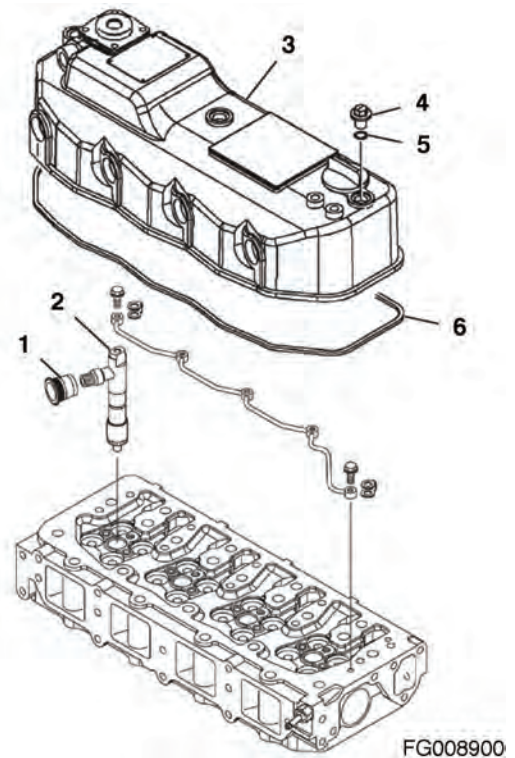

Figure 157
1. Lightly grease a new valve cover gasket (6, Figure 157). Place the gasket in the groove of the valve cover (3, Figure 157).
3. Be sure new O-rings (5, Figure 157) are installed on the valve cover nuts. Reinstall and tighten the valve cover nuts (4, Figure 157).
4. Reinstall the fuel injector grommets (1, Figure 157).